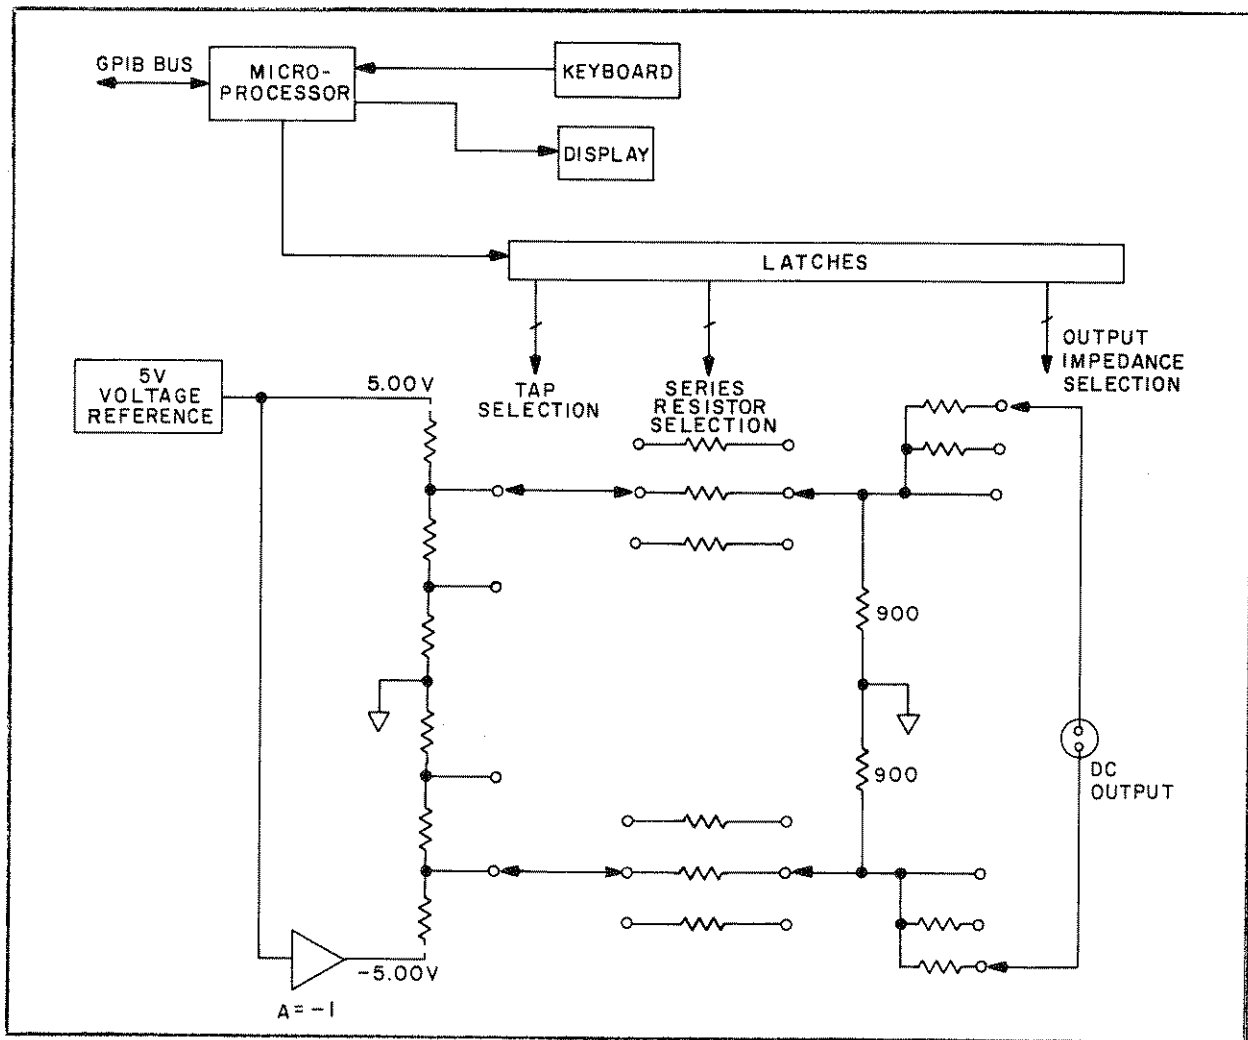

Figure 5-1. Overall Block Diagram
**5-1. INTRODUCTION.** This section contains circuit descriptions and software functions, and block diagrams for the 2510. Refer to the overall block diagram, Figure 5-1, which is described below.
**5-2. BLOCK DIAGRAM DESCRIPTION.** The 2510 is basically a differential voltage reference. In Figure 5-1, a precision 5V reference is used to generate 5.000 VDC. Following this, a unity gain inverting amplifier generates a mirror image of the